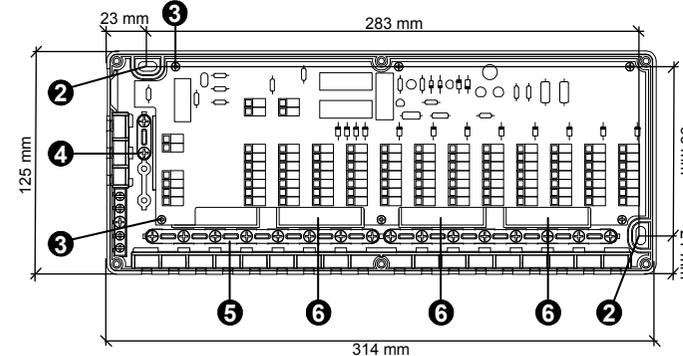

Fig. 2: Internal view and parts.
- Fix the device base to the wall by using the two screw holes labelled **2** in Fig. 2.
With the help of a screwdriver, remove the plastic knock-outs from the base, see item **6**, Fig. 2. Cables can then be taken through the backplate to the terminal connections.